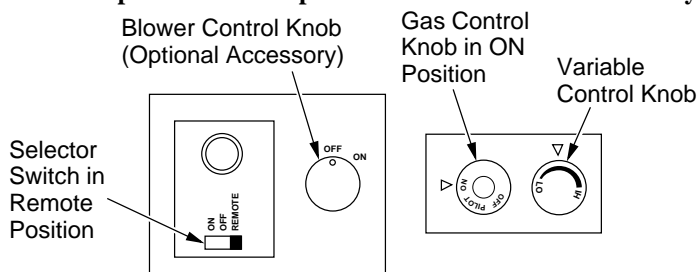

Figure 51 - Setting the Selector Switch, Gas Control Knob, and Variable Control Knob for Remote Operation
1. After lighting, let pilot flame burn for about one minute. Turn control knob to ON position. Adjust flame adjustment knob anywhere between HI and LO. Slide the selector switch to the REMOTE position (see Figure 51). **Note:** The burner may light if hand-held remote was on when selector switch was last turned off. You can now turn the burner on and off with the hand-held remote control unit.